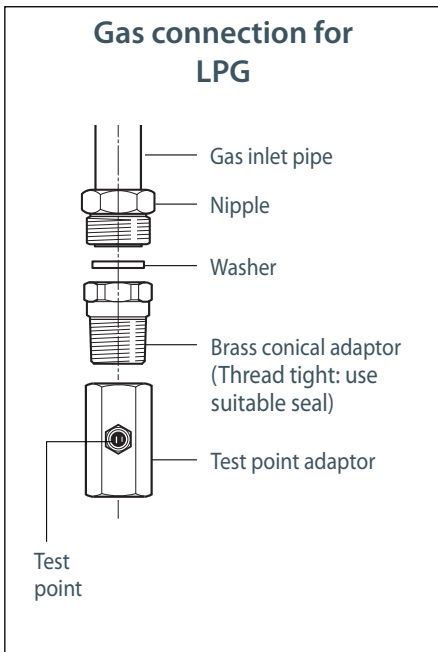

Fig. 4 LPG connection
- For LPG, connect the gas supply to the test point adaptor which is supplied with the appliance (Fig.4). Ensure that the supply pressure is regulated to 2.75 kPa.